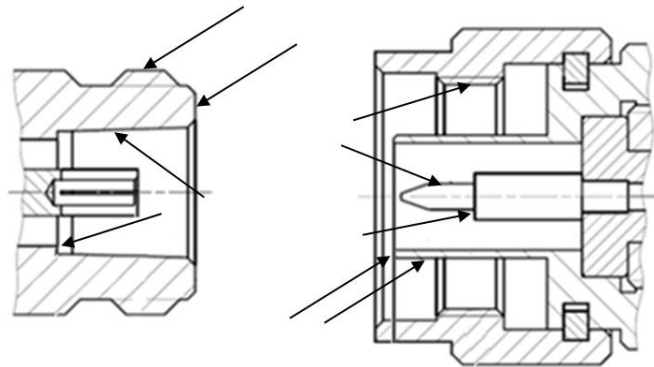

Figure 1. Type N, female (left); type N, male (right) connectors
- Clean the connector surfaces shown by arrows in figure 1 with a lint-free cotton swab dampened with isopropyl alcohol.